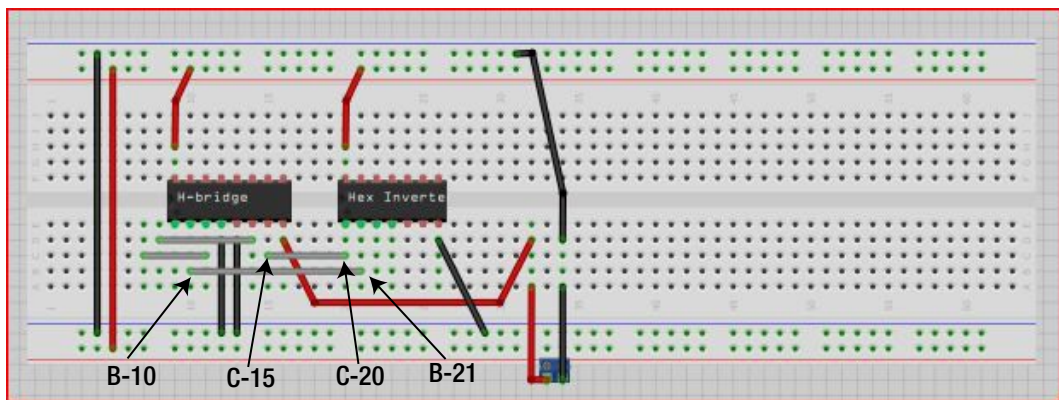

Figure 15-9. Set up the hex inverter
15. Attach pin 2 of the H-bridge to pin 2 of the hex inverter by inserting one end of a jumper wire into B-10 and the other end into B-21. Figure 15-9 illustrates this process.